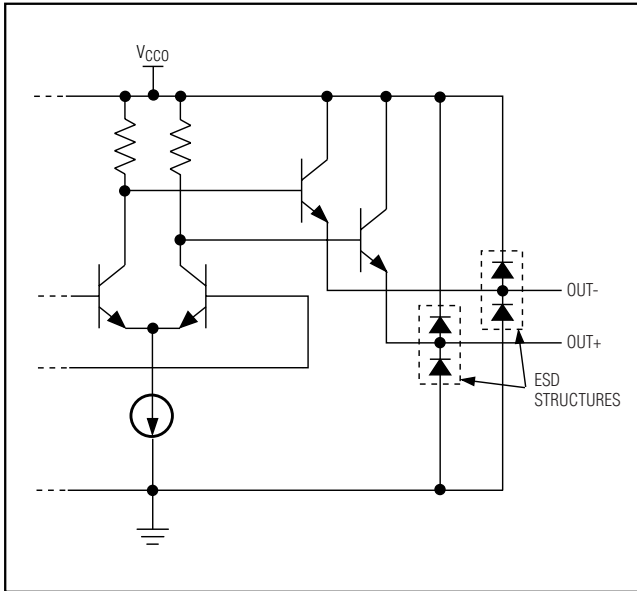

Figure 2. Equivalent PECL Output Circuit
The data outputs (OUT+, OUT-) and signal-detect output (SD) are supply-referenced PECL outputs. See Figure 2 for the equivalent output circuit.